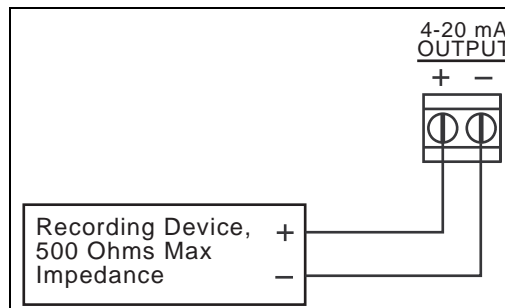

Figure 10: Recorder Output Wiring
6. Connect the leads from the recording device to the analog output terminal strip as shown in Figure 10 below.